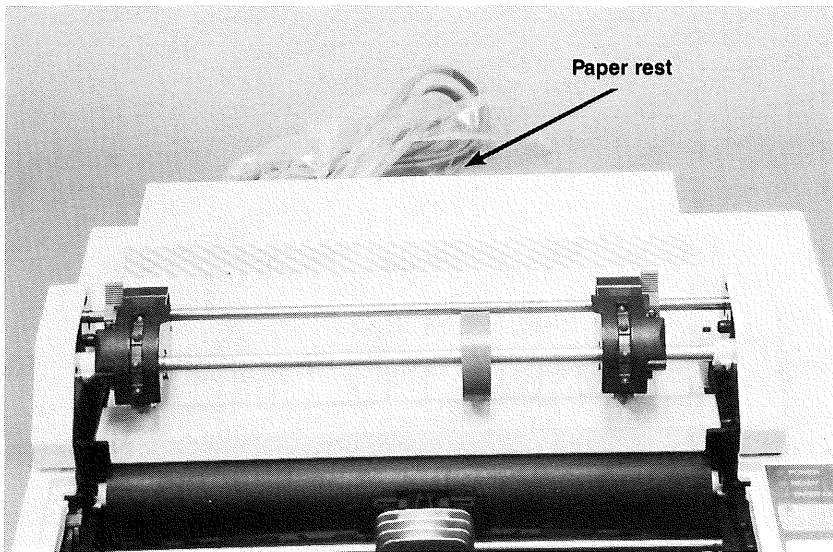

Figure 11.
18. Seat the paper rest into the slots in the top edge of the back of the printer. See Figure 11.